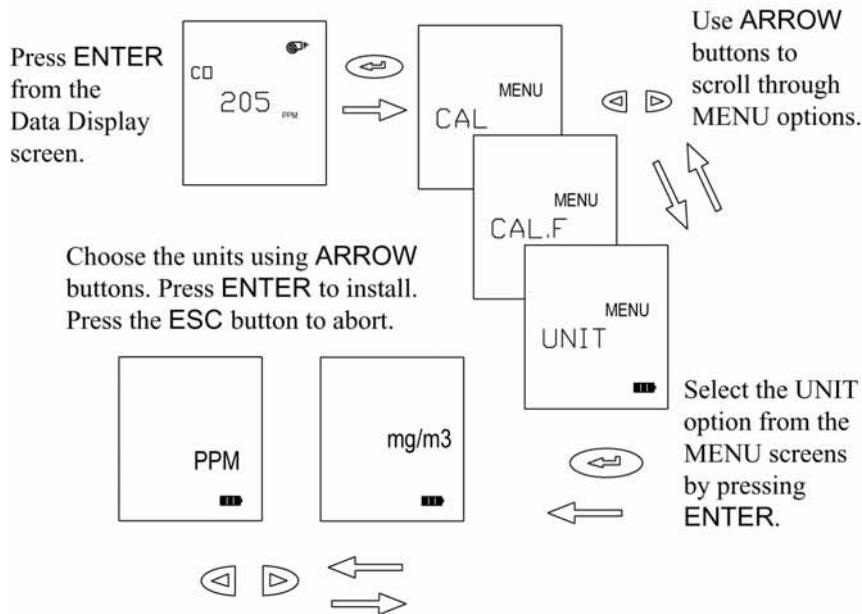

Figure 4. Choosing Display Units
1. To begin, press the **ENTER** button from the Data Display screen. The CAL screen appears. CAL is one of three MENU options selectable using the **ARROW** buttons (reference Figure 4).